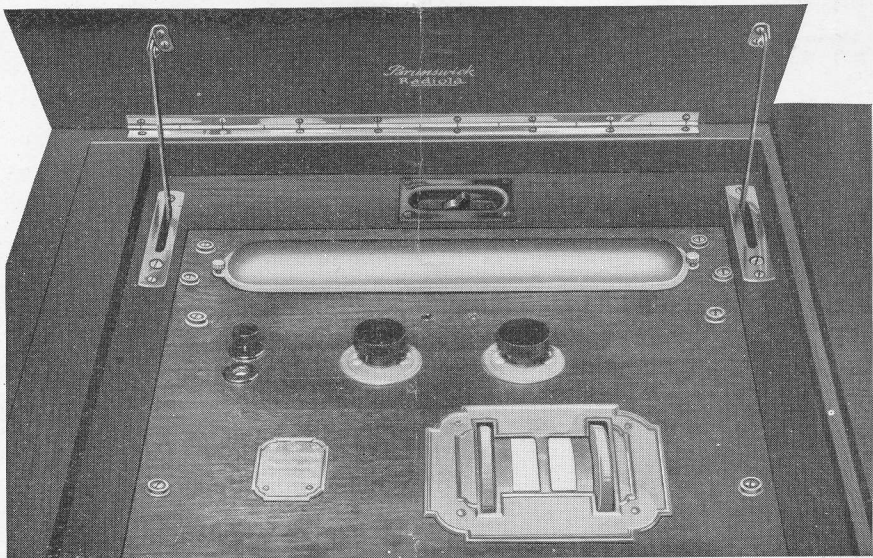

Fig. 3
7. The control switch plate is to be located on the narrow panel at the rear of the Radio panel board as shown in Figure 3. Remove small piece of veneering held in place by four wood screws.